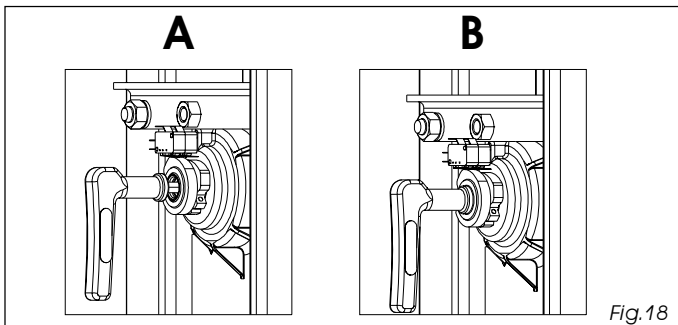

Fig.18
- fit the special key, located inside the upright, in the release hole (fig.18, ref.A) and turn it clockwise for a few turns until you reach the mechanical stop limit.
**Attention:** There is a round edge on the release key, which must rest on the shaft (fig. 18 ref.B). When this position is